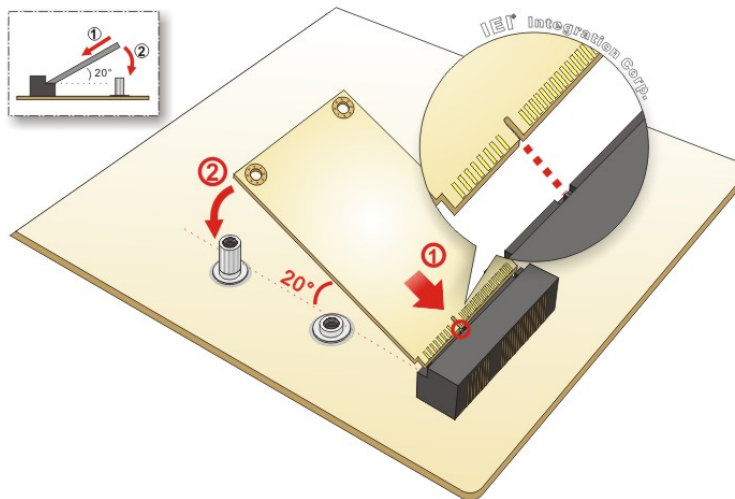

Figure 3-13: Inserting the Full-size PCIe Mini Card into the Slot at an Angle
Step 5: Line up the notch on the card with the notch on the slot. Slide the PCIe Mini card into the socket at an angle of about 20° (**Figure 3-13**).